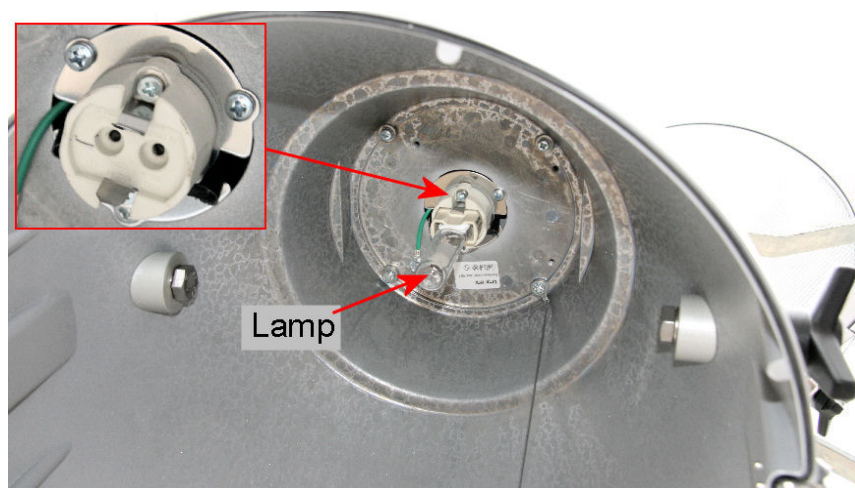

Fig 3-3 Lamp and holder
2. Unclip the lamp from the holder (Fig 3-3).